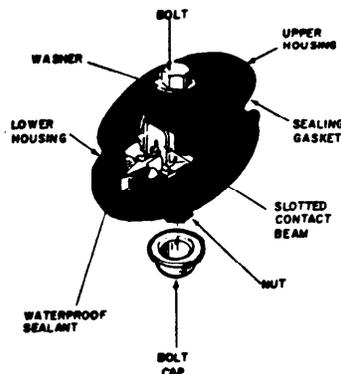

Fig. 1 - AMP\* Mini Drop Wire Splice
2.01 The AMP\* mini drop wire splice (Fig. 1) is designed for splicing single pair drop wire with copper clad steel conductors of 18 to 18 1/2 AWG.